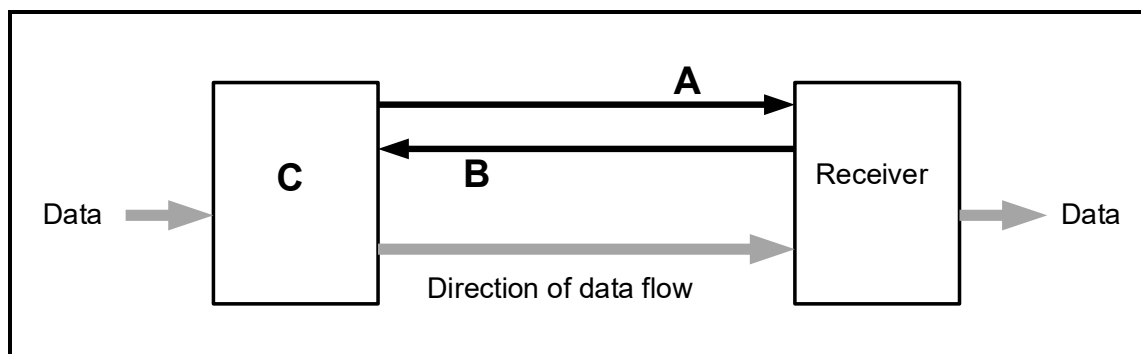

FIGURE 6.2: ASYNCHRONOUS COMMUNICATION
6.2 Refer to FIGURE 6.2 of asynchronous communication below and answer the questions that follow.